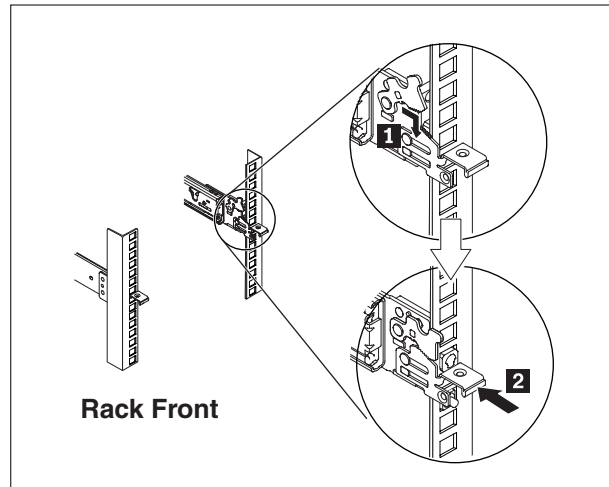

Figure 11. Install the front end of the slide rails
3. Install the front end of the slide rails, as shown in Figure 11 on page 21.